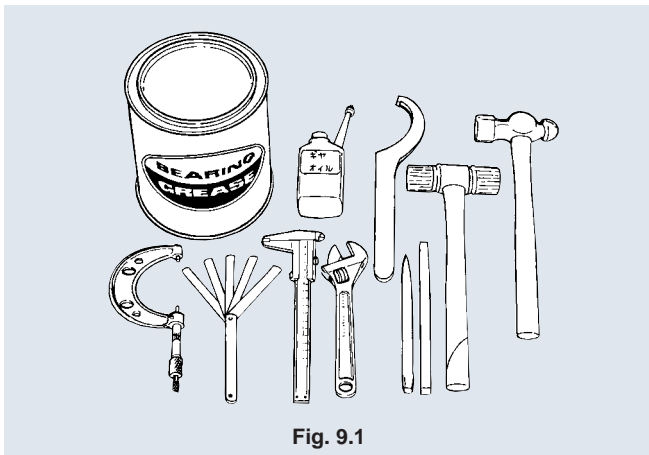

Fig. 9.1
- (1) Prepare installation tools, measuring instruments, oil stone, lubricant and factory cloth. Before the installation work, remove dust and impurities from these tools. **(Fig. 9.1)**